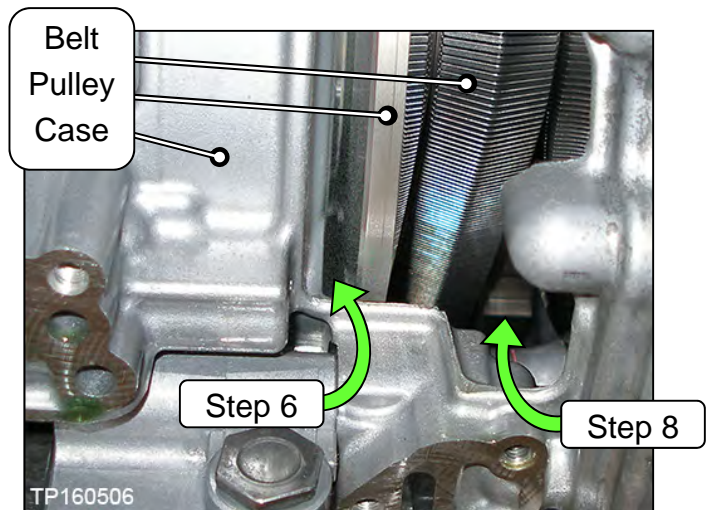
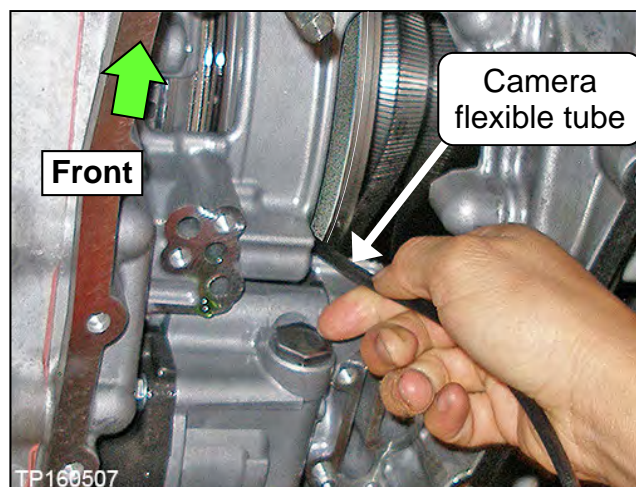

Figure 10
Figure 11
6. Using borescope J-51951 with its mirror attachment, insert the camera lens between the CVT case and pulley where shown in Figure 10 and Figure 11.
- Insert the lens approximately seven (7) inches, and then view the side of the belt that contacts the pulley.
8. Insert the camera lens in the second location where shown in Figure 10 and Figure 14, and then perform step 7 again.